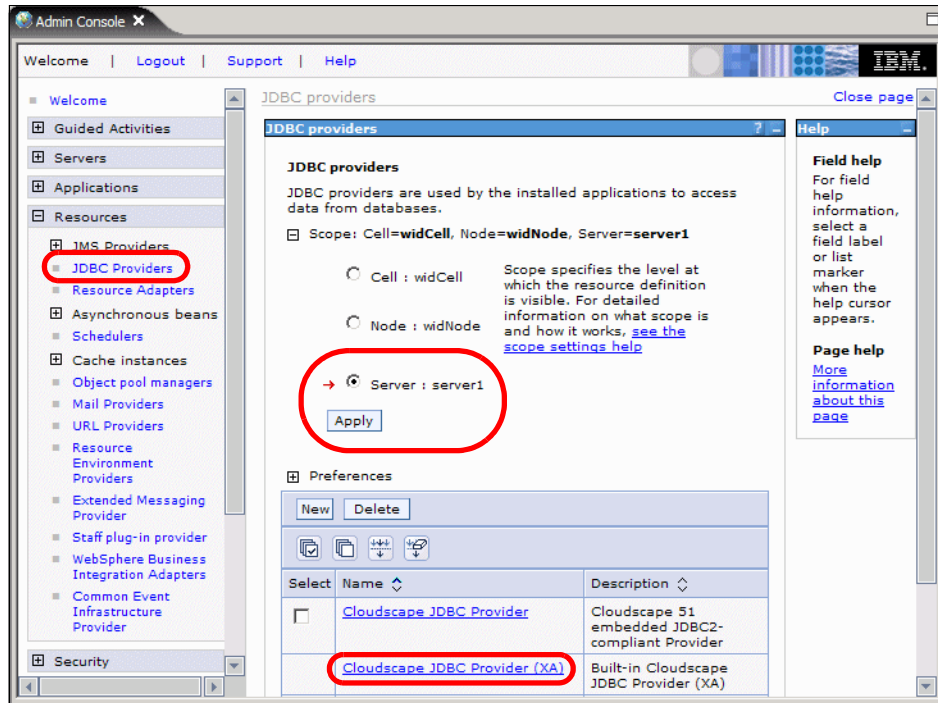

Figure 10-7 Change scope of JDBC Provider
- ▶ Select *Server* as scope, and click *Apply*. We define the data source for the CLIPTACK database at the server level (Figure 10-7).